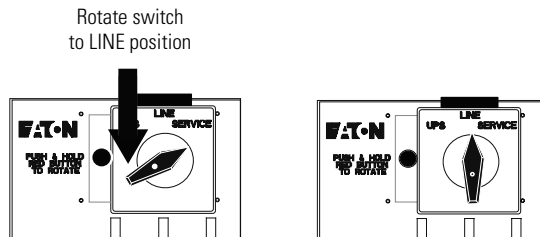

Figure 29. From SERVICE to LINE
1. Turn the switch from SERVICE to LINE (see Figure 29).